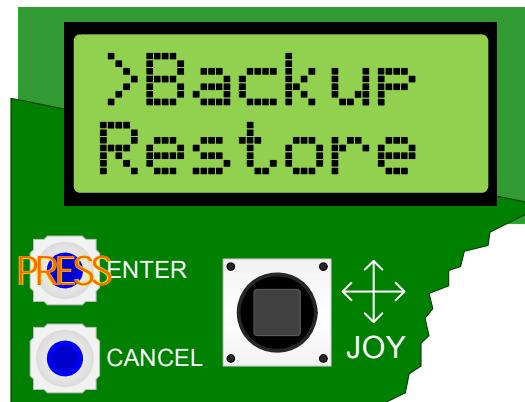

Figure 5: Backup Menu Option
1. Insert your flash drive into the USB port. Navigate to the Update > Backup menu and press "ENTER" (Figure 5).